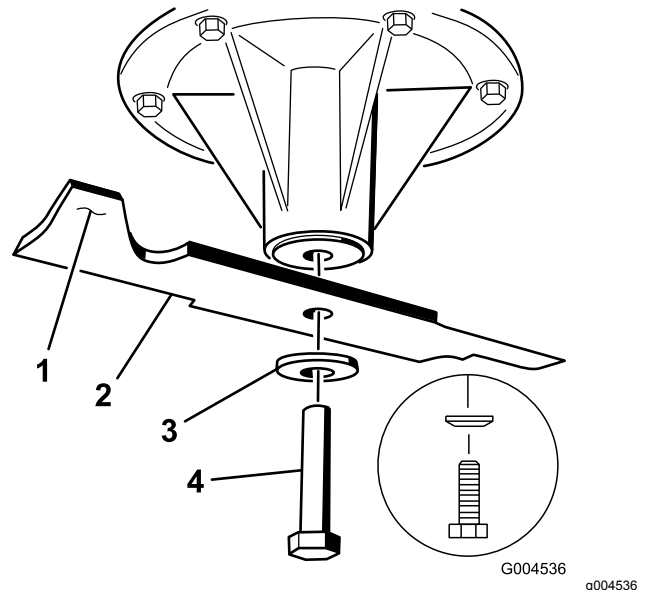

Figure 113
2. Remove the blade bolt, curved washer, and blade from the spindle shaft (Figure 113).
1. Install the blade onto the spindle shaft (Figure 113).
2. Install the curved washer and blade bolt (Figure 113).